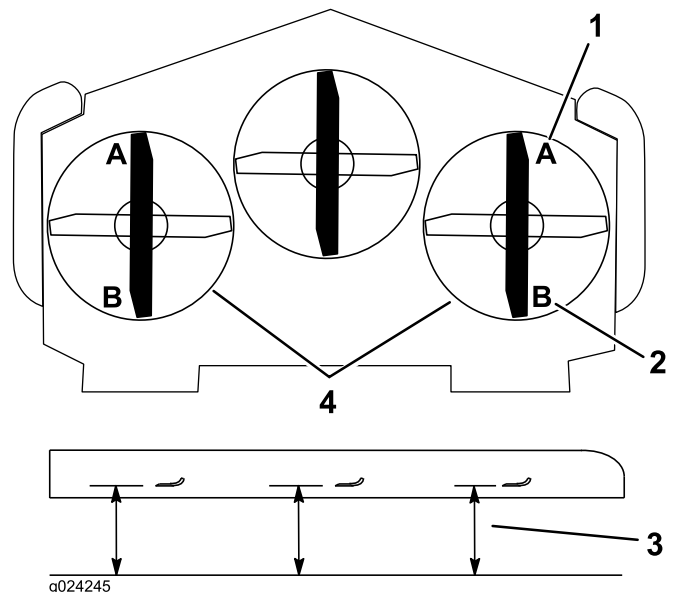

Figure 90
8. On both sides of the deck, measure from the level surface to the front tip of the blade (Position A). Ensure the measurement is 7.6 mm (3 inches) (Figure 90).
14. On both sides of the deck, measure from the level surface to the back tip of the blade (Position B). Ensure the measurement is 8.3 cm (3-1/4 inches) (Figure 90).